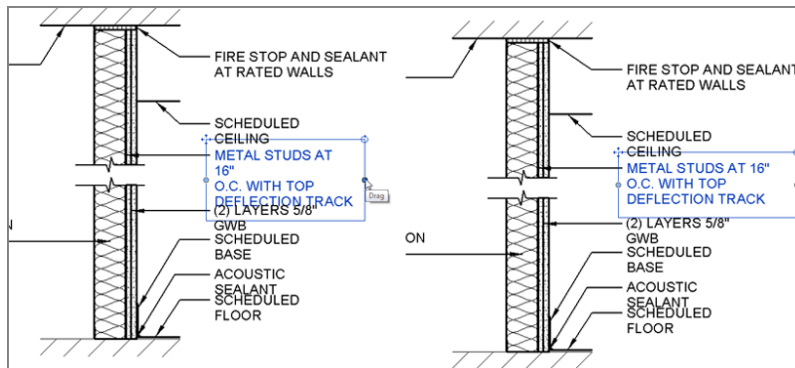

FIGURE 11.57: Fixing the improperly wrapped text
4. Pick the grip to the right, and drag the text box to the right until the text wraps into the correct position, as shown in Figure 11.57.